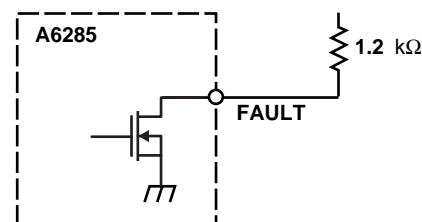

Figure 3. Test circuit for  $t_{pd4}$
with VDROP = IO × RDROP for a single driver or for a Zener diode (VZ), or for a series string of silicon diodes (approximately 0.7 V per diode) for a group of drivers (see figure 3). If the available voltage source will cause unacceptable power dissipation and series resistors or diodes are undesirable, a voltage regulator can be used to provide VLED.